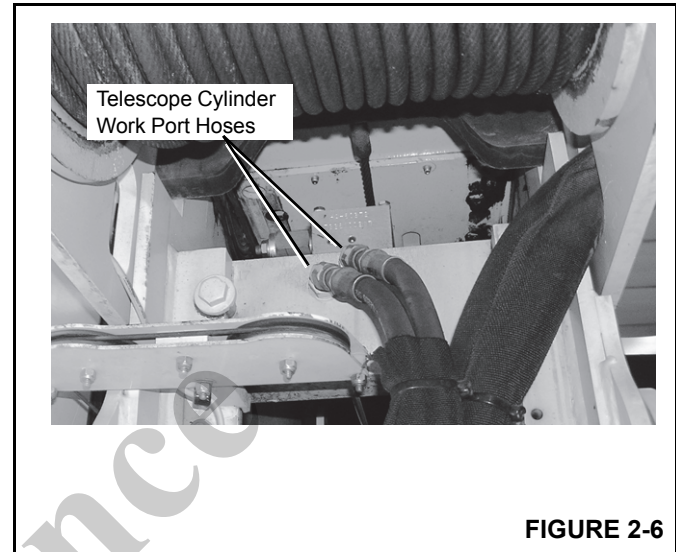

FIGURE 2-6
1. Remove the extend and retract (work port) hoses from the telescope cylinder (Figure 2-6) and cap the telescope adapters.